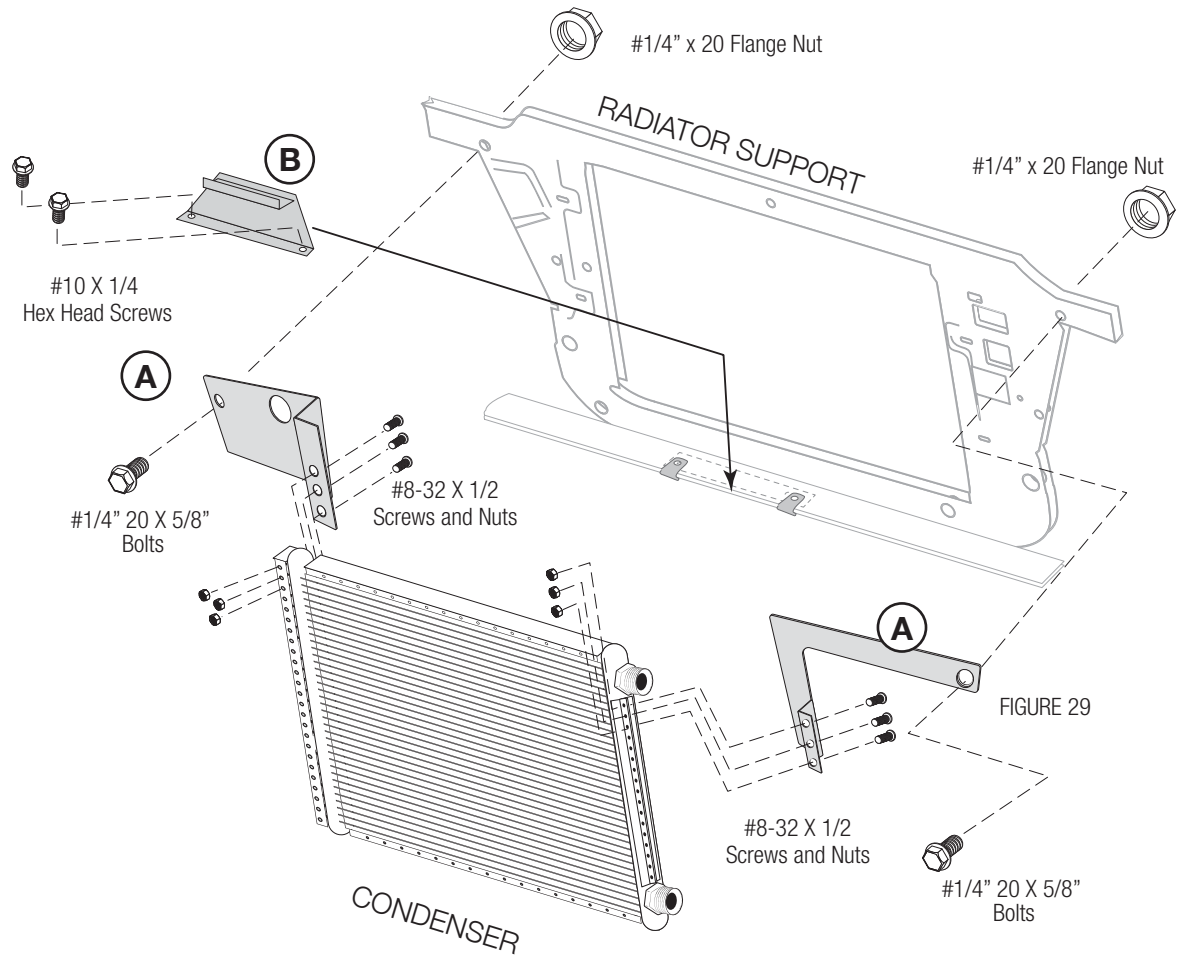

FIGURE 19
STEP FIVE: You can perform most of the following steps on a clean flat surface like a workbench. Lay the condenser down so that both hose connections are on the left side (the larger connection will be on top). Install the upper condenser brackets (A) using the included #8-32 x 1/2 screws and nuts. Both brackets are installed at the very top of the condenser, and from the backside. These brackets have holes that exactly correspond to bolts that are in the OEM radiator support (see figure 19).
STEP SIX: We've included a new lower condenser bracket (B). Locate the lower mounting bracket to bottom rail in front of the radiator. Attach two 1/4"-20 j-clip to the frame rail over the existing holes, and secure with two 1/4" x 20 x 5/8" hex screws. Peel back off of MDS03 insulation and attach to bracket channel (see figure 19).
STEP SEVEN: Place the condenser into place and secure with a 1/4"-20 x 5/8" hex head screw and a 1/4" x 20 flange nut thru the existing holes in the radiator support on both sides (both brackets are secured in the same way see figure 19).